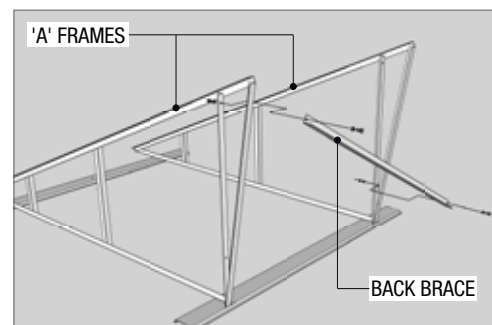

Fig 2
2. Bolt the back brace to the rear edge of the 'A' frames using the M8 bolts and nuts with washers (Fig 2)